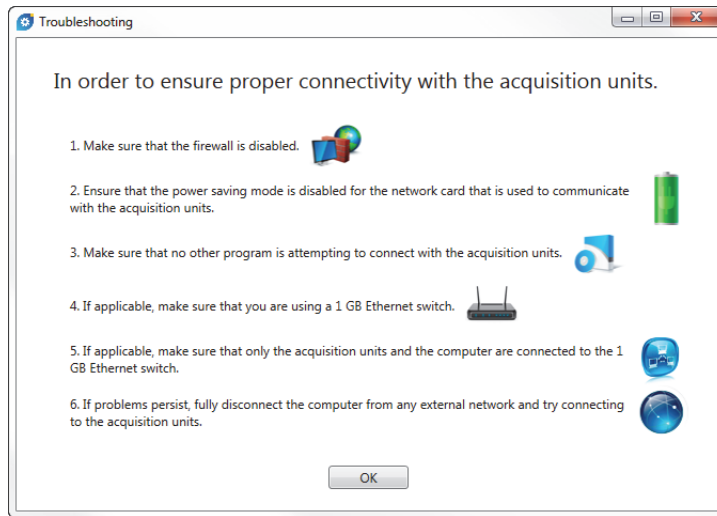

Figure 1-21 Troubleshooting dialog box example
- ◆ Click **Troubleshooting** to view a list of possible causes of connection problems, and follow the instructions provided (Figure 1-21 on page 39).